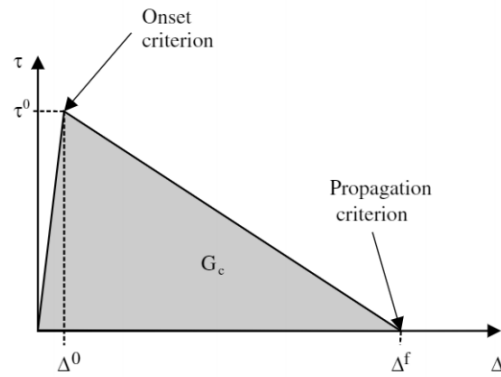

Fig. 3.11: **Bilinear Traction Separation Law** or the linear softening law [2].
- ‘GcNormal’** Fracture toughness in opening mode G_{C_I} . See Fig. 3.11
- ‘GcShear’** Fracture toughness in shear mode $G_{C_{sh}}$. See Fig. 3.11
- ‘gFailureNormal’** Final or failure displacement gap in opening mode Δ_I^f . See Fig. 3.11
- ‘gFailureShear’** Final or failure displacement gap in shear mode Δ_{sh}^f . See Fig. 3.11